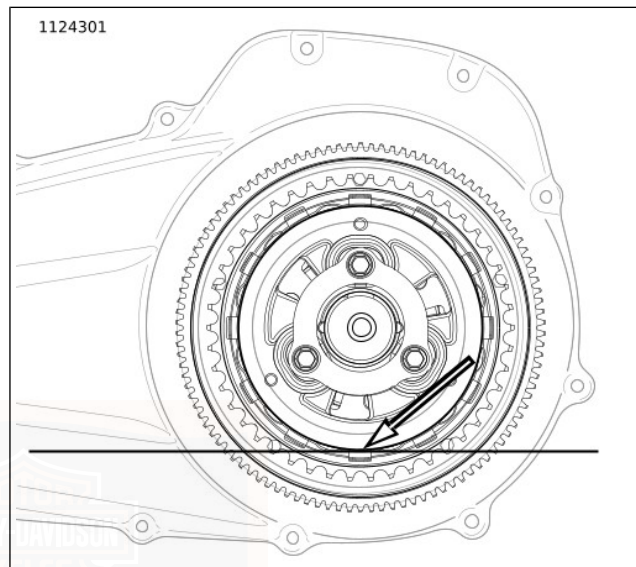

Figure 92. Primary Lubricant Level
- b. See Figure 92. Proper level is approximately at bottom of pressure plate OD.